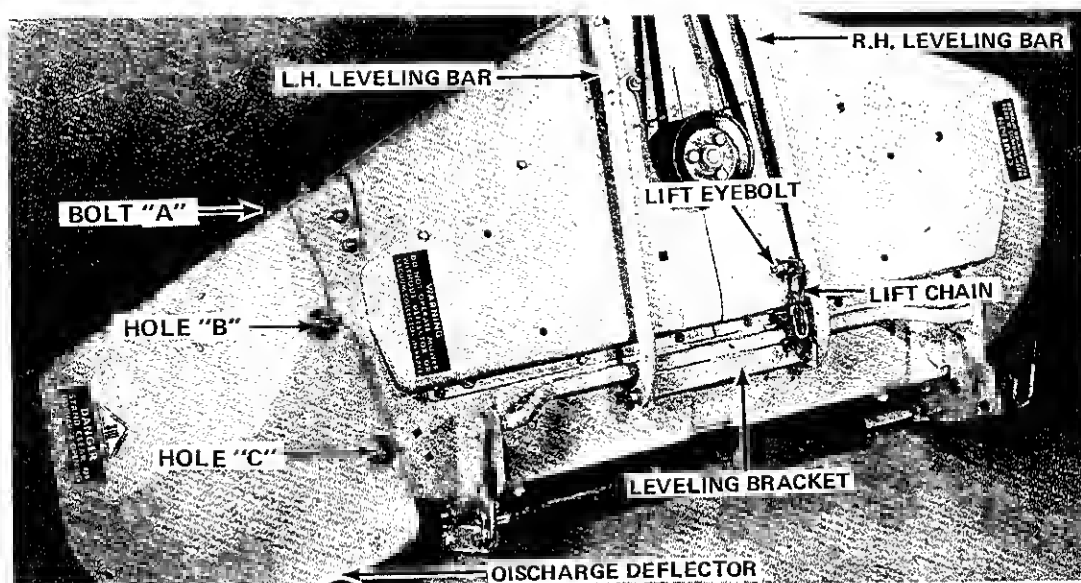

Figure 6.
5. See Figure 6. Fasten the rear of the right and left leveling bars to the inside of the leveling bracket ears. Bolt lower link of lift chain to lift eyebolt.
6. See Figure 6. Bolt the discharge deflector to the left end of mower housing, slipping notch in front leg of deflector under large flat washer on bolt "A" and installing bolt, flat washer, lockwasher and nut at holes "B" and "C".
4. Engage the power take off by pushing the PTO control lever to the forward position to put tension on belt. Swing the two belt guides forward at mower driven pulley and adjust them to within 1/8 inch of the belt (Figure 6).